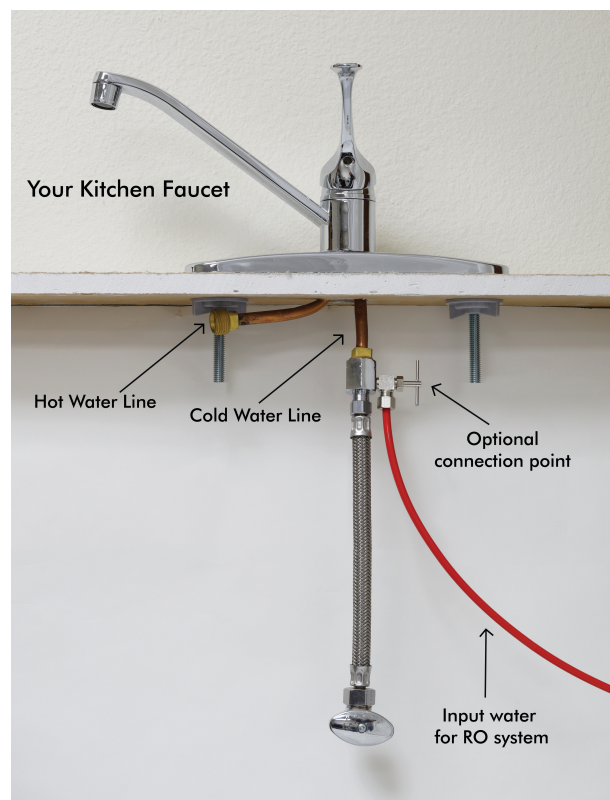

Fig. 5E
**Option Connection Point:** See **Fig. 5E.** The feed water adapter can also be installed between the riser tube and faucet shank. Loosen nut and separate cold water riser tube from faucet shank. Gently bend riser tube so that the Feed Water Adapter fits onto the faucet shank. If your riser tube has no built-in washer, then fit the cone-shaped washer provided onto the riser tube. Connect the riser tube, feed water adapter, and faucet shank together and **tighten.**